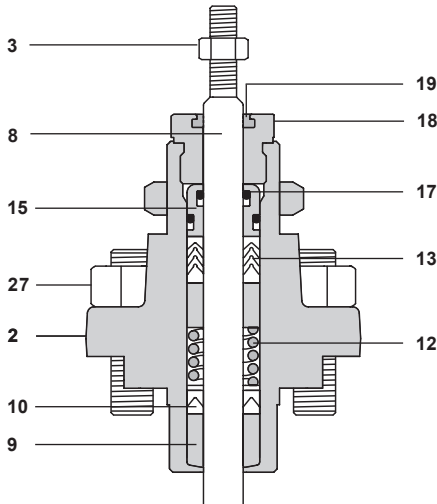

Fig. 9
- Undo and remove the bonnet nuts (27) or the bolt if it is the LE valve.
4.4 Replacement of PTFE gland packings (reference Figure 9)
- Remove the lock-nut (3) and unscrew the gland nut (18).
- Remove the plug and stem (8).
- Remove the gland nut (18).
- Remove and carefully dispose of the scrapper ring (19) from gland nut (18).
- Clean the groove and inside diameter of the gland nut (18).
- Install scrapper ring (19) in the gland nut (18).